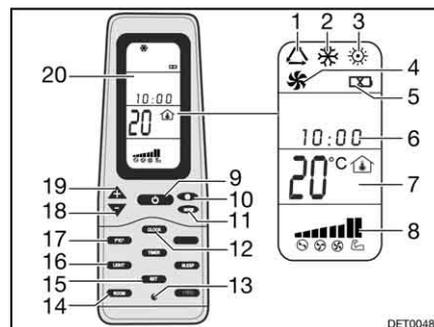

Fig. 189 Remote control
- Press the ON/OFF button (Fig. 189,9).
- Press the "Mode" button (Fig. 189,11) as often as required until the required mode (Fig. 189,1, 2, 3 or 4) is indicated on the display (Fig. 189,20).
- Use the "+" (Fig. 189,19) and "-" (Fig. 189,18) buttons to set the desired temperature.
- Use the fan speed button (Fig. 189,10) to select the desired fan level.